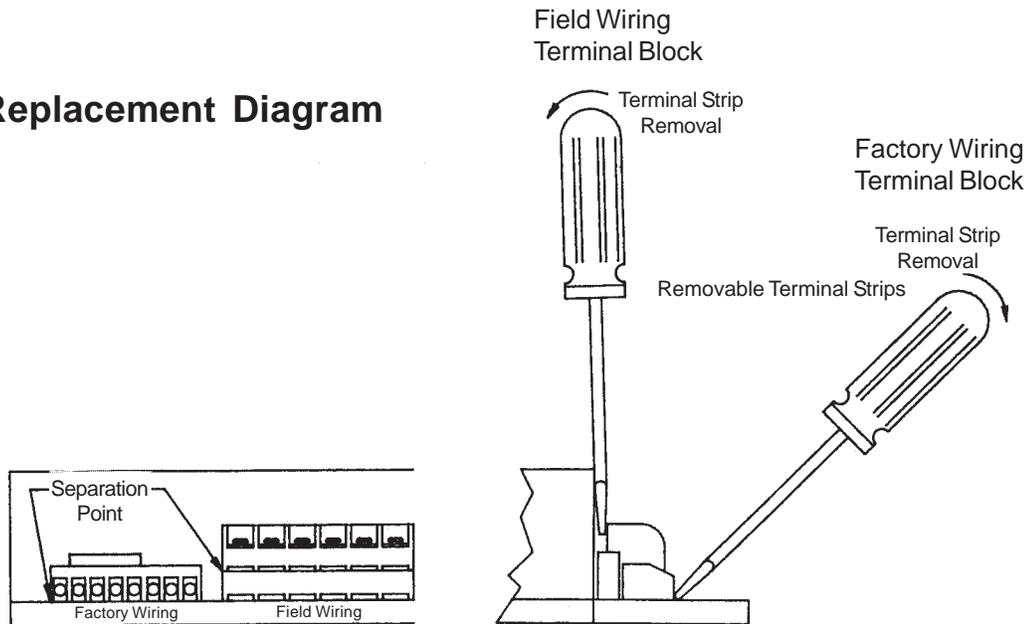

Figure 7-1
3. Remove all field wiring terminal blocks from the electronic module. The field wires do not need to be removed from the terminal blocks to do this. The terminal blocks separate at midpoint on the vertical as shown in Figure 7-1.
4. Remove the factory wiring terminal blocks from the electronic module. The factory wiring does not have to be removed to do this. The terminal blocks separate from the module at the board surface as shown in Figure 7-1.
5. Remove the four (4) machine screws from the base of the electronic module. The module can now be removed from the control panel.